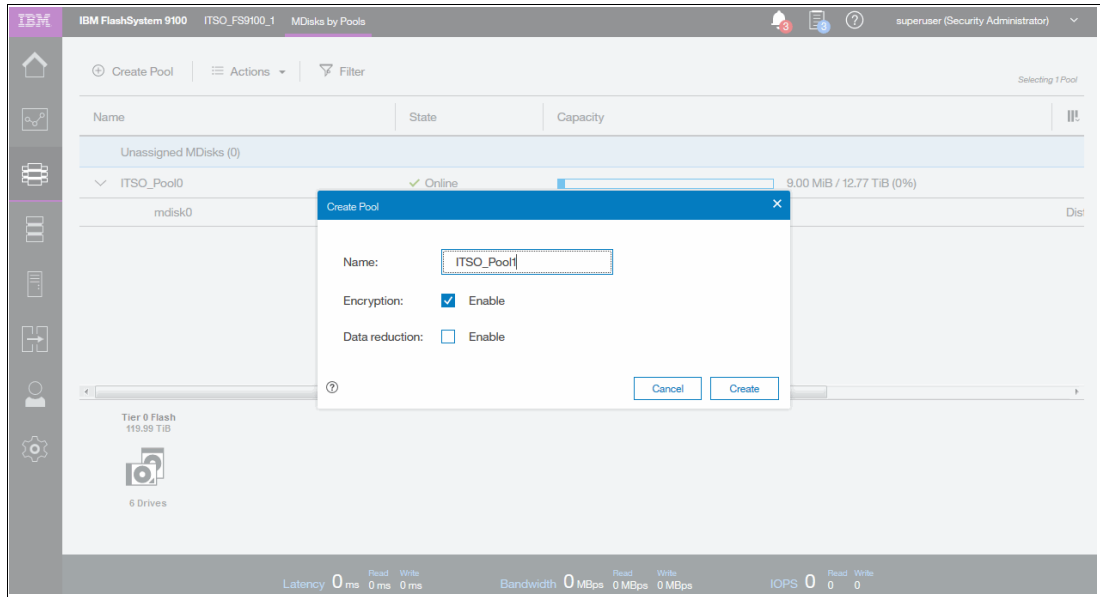

Figure 5-23 Create Pool dialog box
4. Open the Dialog box shown in Figure 5-23. Enter the Name of a new storage pool, ITSO_Pool1, and then click **Create**.